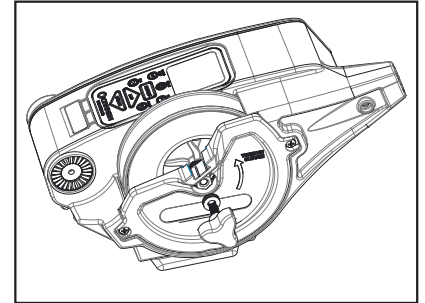

Figure 19
1. Loosen and remove the clutch knob. Turn the clutch knob clockwise until it is free of the motor shaft. (Figure 19)